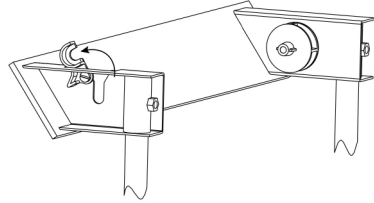

Fig.4
- Rotate the locking lever on the right hand side of the upper target roller assembly up and forwards. (See Fig.4)